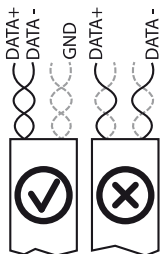

Figure 13: Wire twisted-pair connection
- Observe the wire twisted pairing when connecting DATA+ and DATA- (see Figure 13)